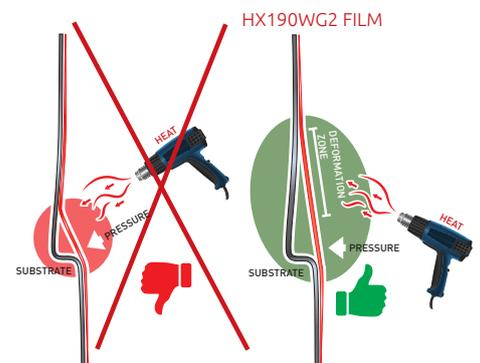

Figure 08
- › Stretch the vinyl over the substrate so that it touches the peaks only. (FIG. 08)